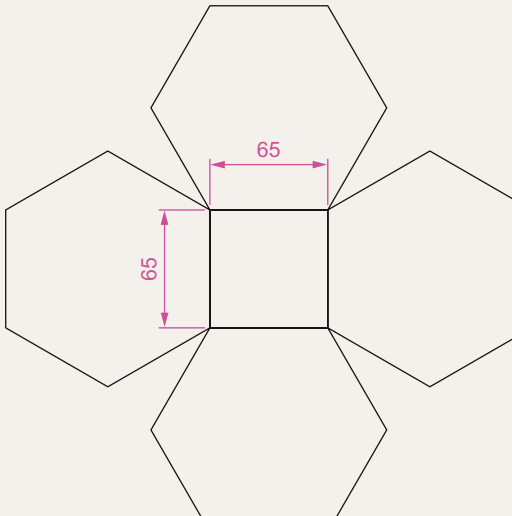

Fig. 3.49 Exercise 6
6. Fig. 3.49 shows a rectangle in the form of a square with hexagons along each edge. Using the **Dimensions** prompt of the **Rectangle** tool, construct the square. Then, using the **Edge** prompt of the **Polygon** tool, add the four hexagons. Use the **Object Snap endpoint** to ensure the polygons are in their exact positions.